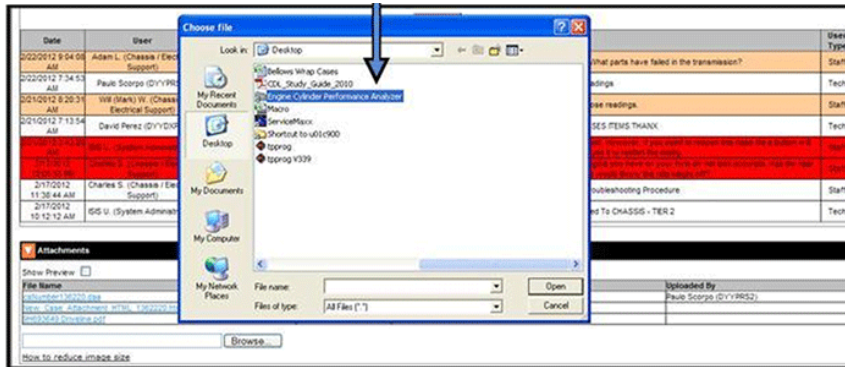

Figure 4
- The folder is defaulted on the computer's desktop. (Figure 4).